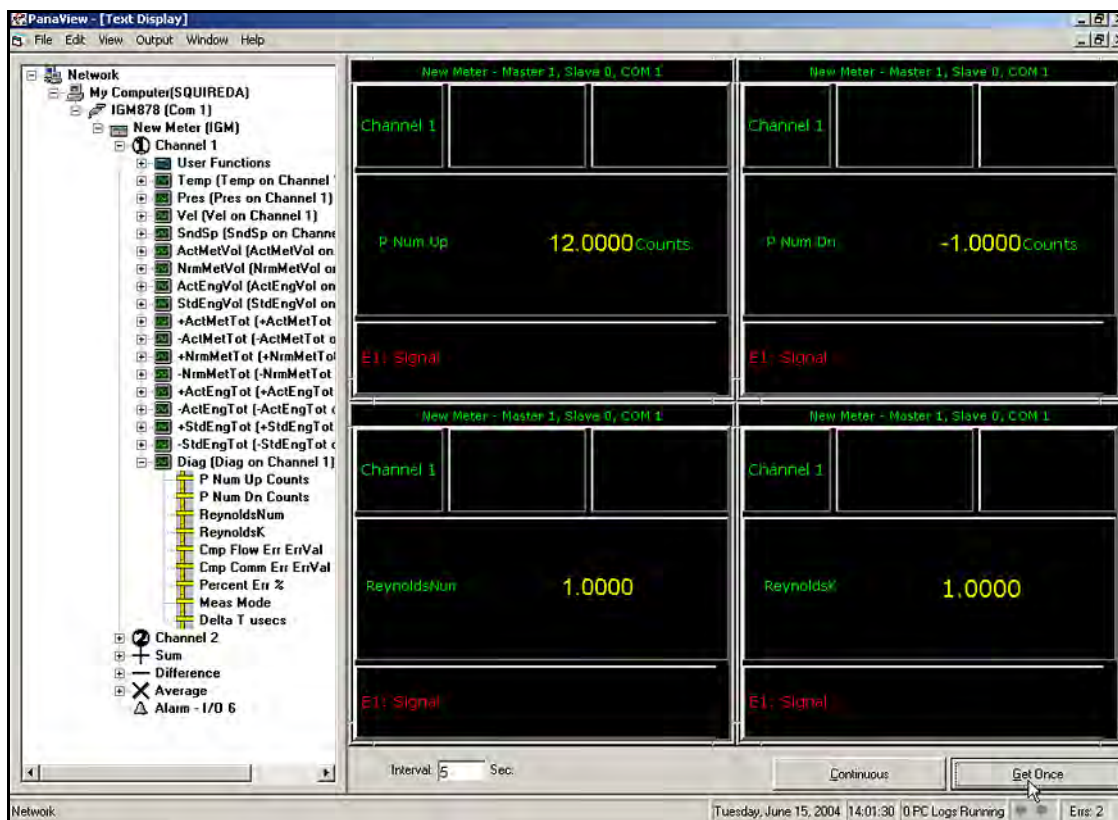
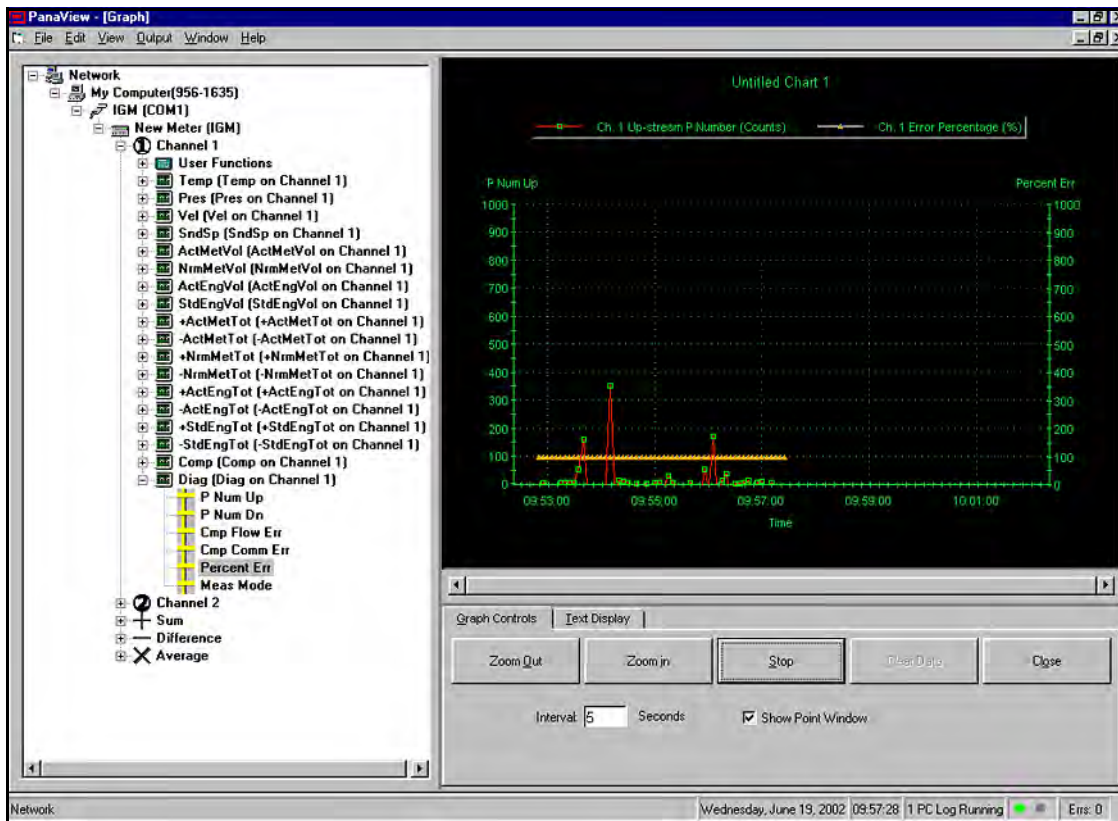

Figure 72: Diagnostic Display in Text Format
Figure 73: Diagnostic Display in Graphical Format
6. Double click on one or more of the six parameters and, depending on the number of parameters chosen and the format selected in Step 3, a display similar to that shown in *Figure 72* below or *Figure 73* on page 87 will appear.
Note: *The Graphing/New selection will allow only one or two parameters per display (see Figure 73 on page 87).*